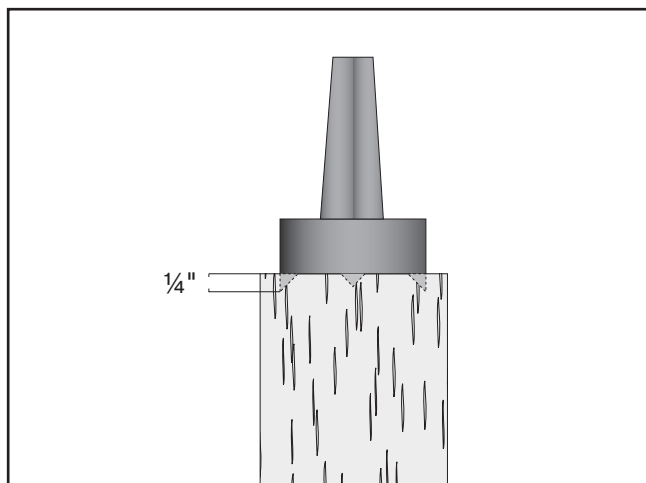

Figure 34. Spur center properly embedded.
6. Use a wood mallet to embed the spur center at least $\frac{1}{4}$ " into the workpiece end center mark, as illustrated in **Figure 34**.